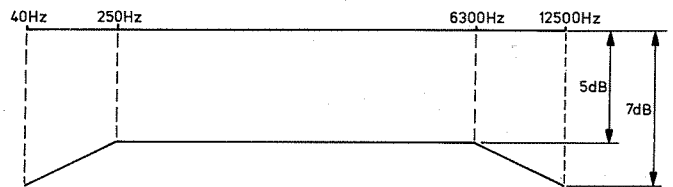

Fig. 6-4
- When one channel is adjusted, this may slightly affect the adjustment of the other channel. If the adjustment is correct, the frequency response curve will be similar to curve b in figure 6-4. Distortion  $\leq$  3%. If the bias is too small, the distortion will increase. The frequency response will then be as shown in fig. 6-4, curve a. If the bias level is too high, this will result in excessive treble attenuation, see curve c in fig. 6-4.